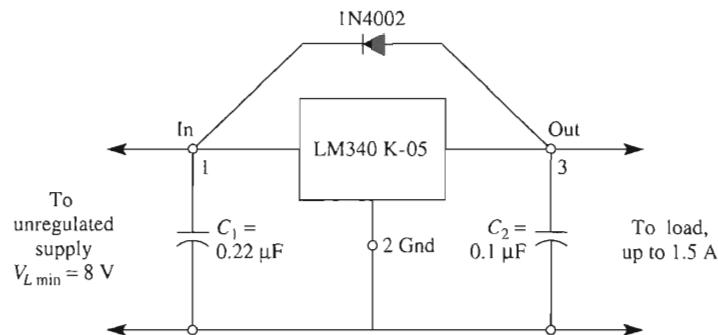

FIGURE 16-11 A TTL digital logic regulated power supply (5 V at 1 A.)
A $+5 \text{ V}$ digital power supply for TTL logic or certain microprocessors is shown in Fig. 16-11. The K package of the LM340-05 is a steel TO-3 case and should be heat sunked
$V_{L \text{ min}}$ for the unregulated FWB supply should allow 3 V of headroom and should be greater than $(3 + 5) \text{ V} = 8 \text{ V}$ (see Fig. 16-11). Choose a 12.6-V transformer ($1.8 \times 1 \text{ A}$) at a 2-A current rating. From Sections 16-2 and 16-3: (1) $V_{dc \text{ NL}} = 12.6 \text{ V} \times 1.4 = 17.8 \text{ V}$. (2) Assume that $R_o = 6 \Omega$. If $I_{L \text{ FL}} = 1 \text{ A}$, then $V_{dc \text{ FL}} = 17.8 \text{ V} - 6 \Omega(1 \text{ A}) = 11.8 \text{ V}$. (3) Pick a 1000- μF filter capacitor to give a $\Delta V_o = 5 \text{ V}$. Thus, $V_{L \text{ min}}$ should be at least $11.8 \text{ V} - (5 \text{ V}/2) = 9.3 \text{ V}$, leaving some margin. Pick the capacitor WVDC $\geq 25 \text{ V}$ and diodes with a 25-V PIV rating. The diode current rating should exceed 1 A.